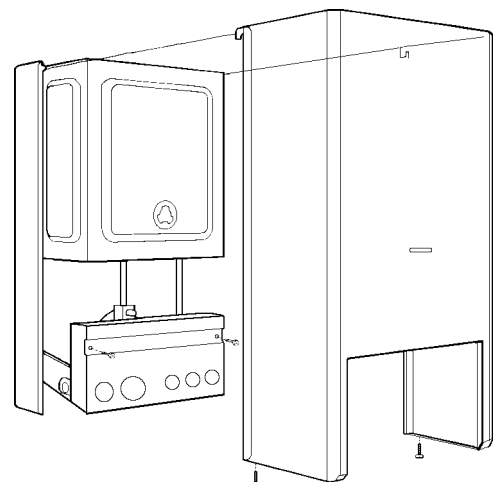

Fig. 23
- 6.14** Refixing the boiler casing fig. 23
Slide the casing downwards to fully engage the hooks and to align the bottom fixing holes. Replace the four case retaining screws. (fig. 23)